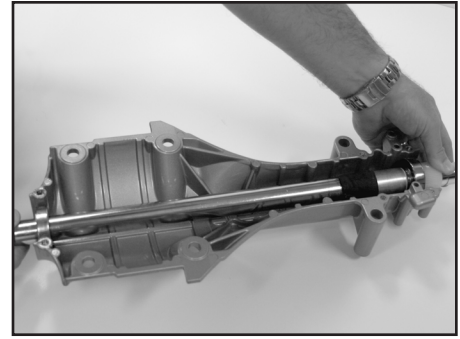

Figure 15
7. Place the shaft and bearing assembly into the aluminum die cast housing. Figure 15